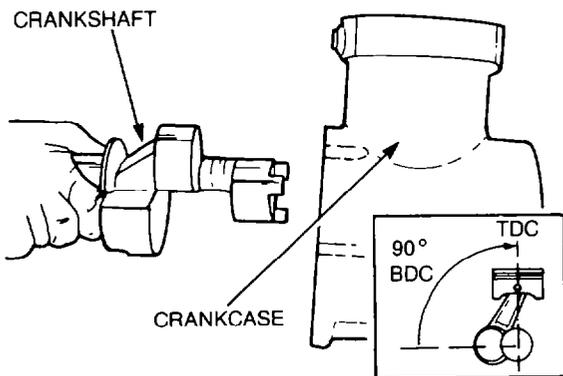

Figure 236 — Crankshaft — Removal
- m. Rotate the crankshaft until the piston is approximately 90° before or after TDC, then remove the crankshaft from the connecting rod and the crankcase while rotating the crankshaft and guiding the connecting rod over the rear bearing journal (see Fig. 236).